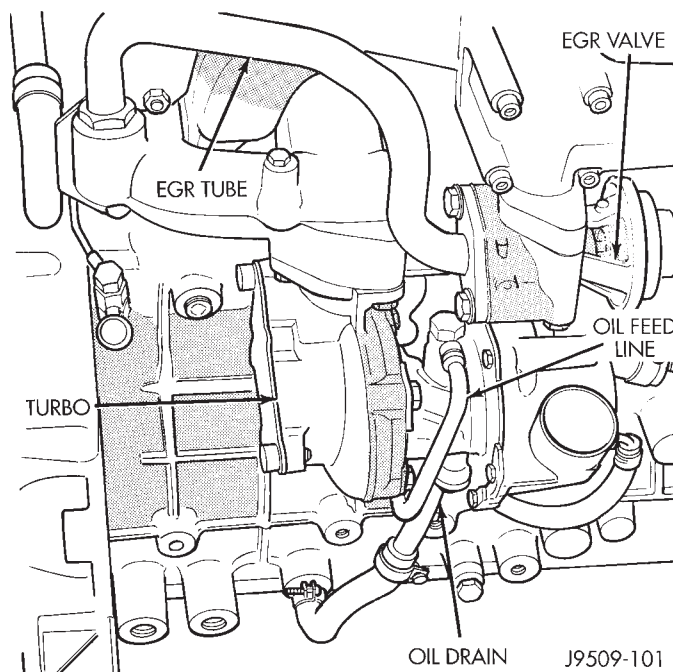

Fig. 17 Turbocharger
- (14) Disconnect EGR tube from EGR valve.
- (15) Remove EGR valve
- (16) Remove exhaust heat shield from exhaust manifold.
- (17) Remove exhaust heat shield from down pipe.
- (18) Remove exhaust down pipe from turbocharger (Fig. 17).
- (19) Disconnect oil feed line from turbocharger.
- (20) Disconnect oil drain line from turbocharger.
- (21) Remove Exhaust manifold (refer to Group 11, Exhaust System and Intake Manifold).
- (22) Remove Intake manifold (refer to Group 11, Exhaust System and Intake Manifold).